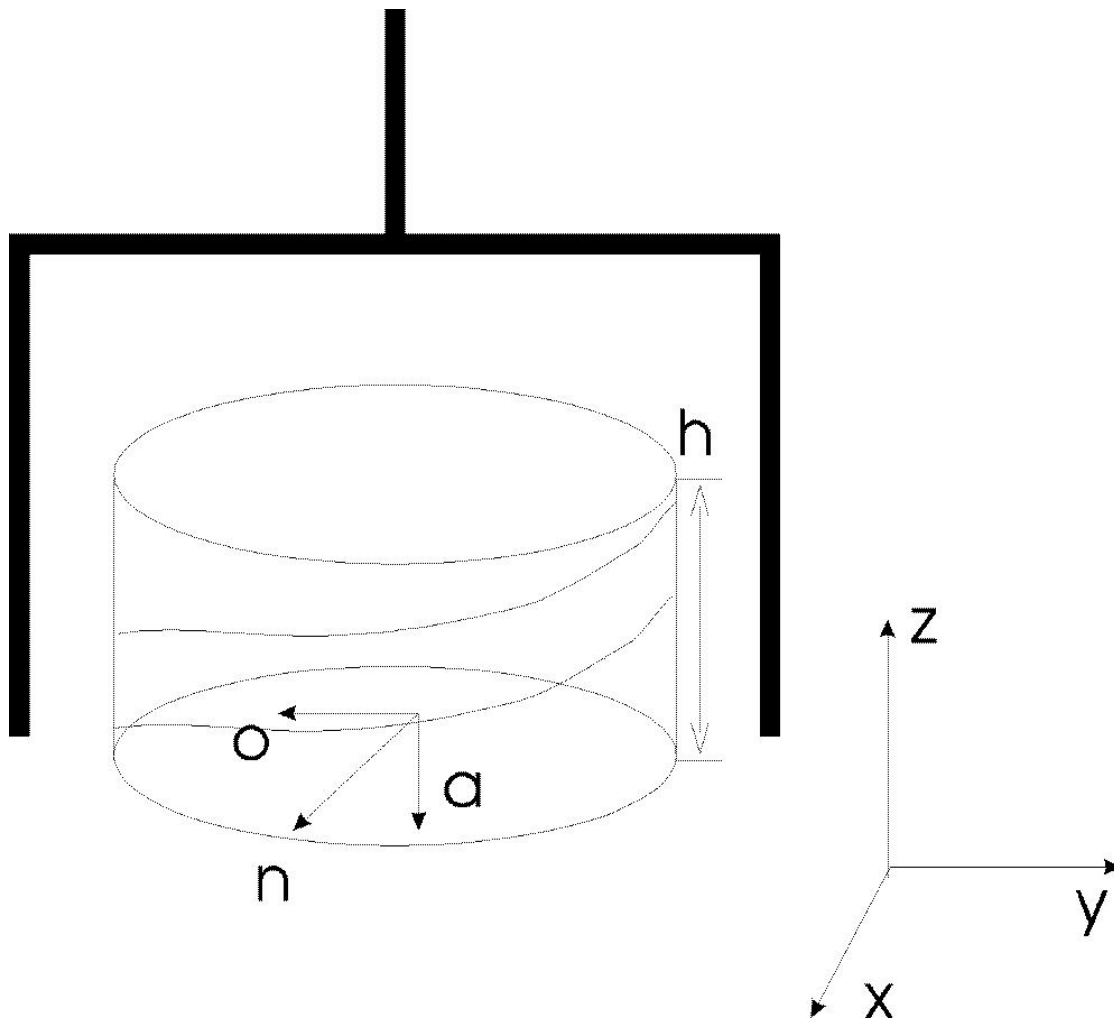

Figure 1: Loosening of a screw cap.
**Task 3.1 (4 points) Screw Cap:** Consider a simple gripper that is being used to loosen/open a screw cap (illustrated in figure 1). The thread height of the screw cap is given as  $h/\text{rotations}$ .